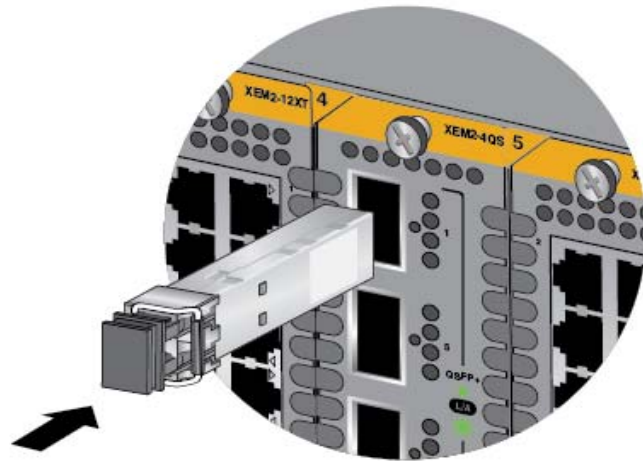

Figure 99. Installing a Fiber Optic Transceiver in the XEM2-4QS Line Card
- XEM2-4QS Line Card - Figure 99 shows a QSFP4 transceiver being installed in an XEM2-4QS Line Card.